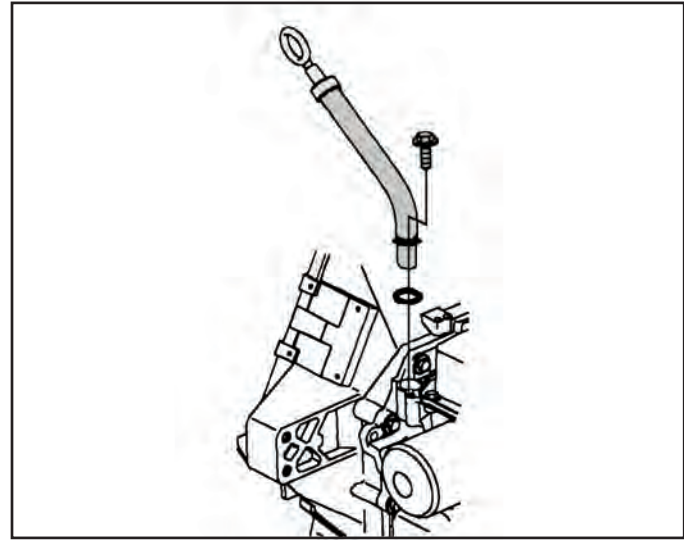

Figure 57
3. Remove the filler tube retaining bolt using an 8mm socket and pull the tube from the case as shown in Figure 57).